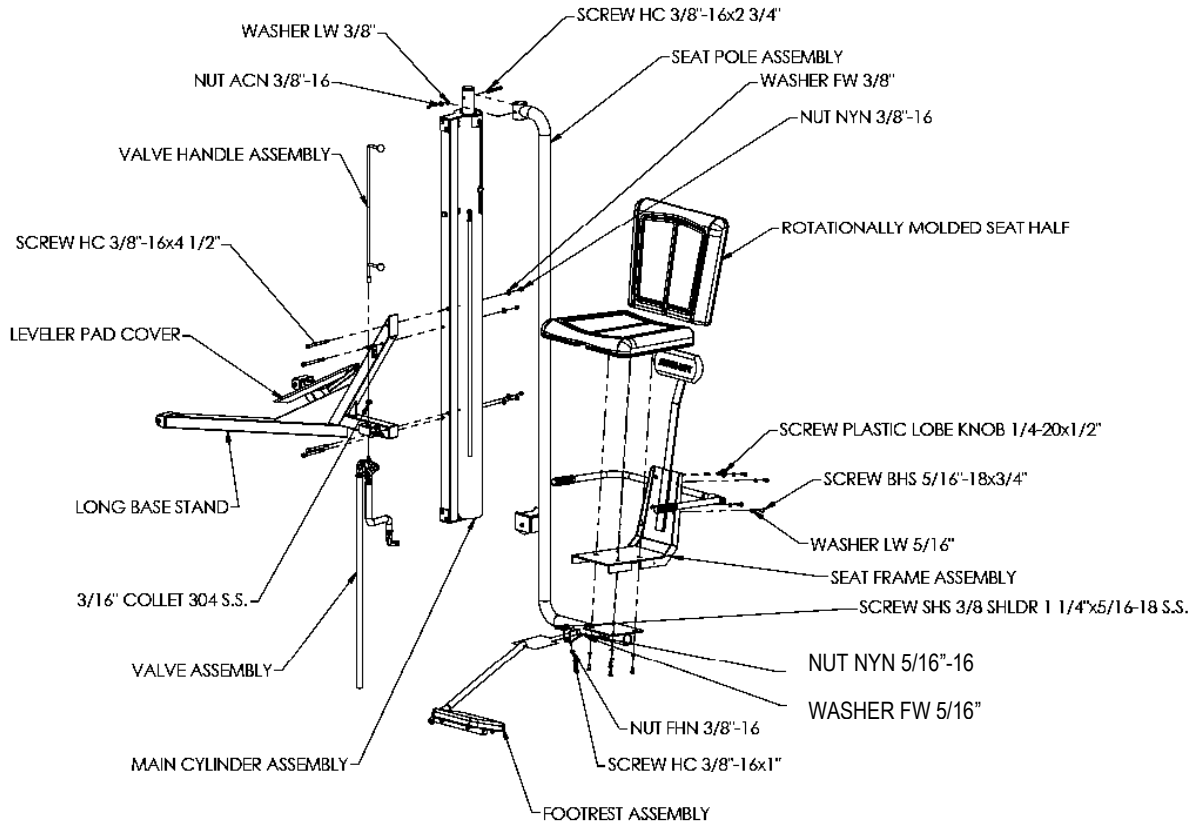

Figure 1
1. Attach the base of the Cylinder Support Column Assembly with four 3/8" – 16 x 4-1/2" hex head bolts protruding from the support column, as shown in figure 1. Secure the base with four 3/8" Flat washers and four 3/8" acorn nuts, torque to 20 ft-lb.
3. Mount the valve to the valve bracket on the base as shown in figure 1. Use the brass hardware supplied with the valve.
NOTE: The two-piece collar on the valve handle and slide the valve handle in place and may need to be repositioned. To move the collar, loosen the screws in the collar using a 7/64" hex key wrench. Move the collar so that it is just below the valve handle bracket and retighten the screws. See Figure 1.
6. Attach the Seat back to the Seat Frame with four 5/16" – 18x3/4" Button head screws torqued to 11 ft-lb, as shown in figure 1.
7. Attach the Seat bottom to the Seat Pole by using two 5/16" – 18 x 1" Button Head screws. First install a 5/16" – 18 x 1" button head screw and insert this through one of the two front holes of the Seat arm plate, then through the seat frame and then finally set the screw into the seat bottom as shown in figure 1, loosely.
8. After the Seat assembly has been secured with the two front 5/16" - 18 x 1" Button head screws, insert two 5/16" – 18 x 1" Button head screws through two 5/16" flat washers and then through the Seat belt grommets and into the Seat assembly tightening all 5/16" - 18 x 1" Button head screws to 11 lb-ft at this time, as shown in figure 1.
12. Connect Flip up footrest using one 3/8" – 16 x 1 1/4" Socket head shoulder screw, a 3/8" Flat washer and, 3/8" nylock nut torque to 20 ft-lb as shown in figure 1.